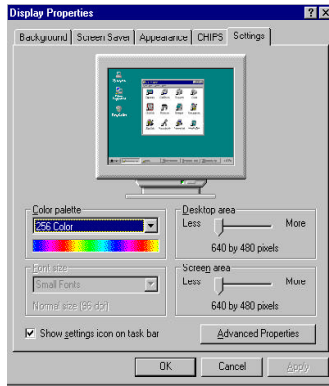

figure 1
1. Install Windows® 95/98 as you normally would for a VGA display. Click the **Start** button, go to **Settings** and click on **Control Panel**. Choose the **Display** icon and double click on the icon. In the **Display Properties** window, show as figure 1: